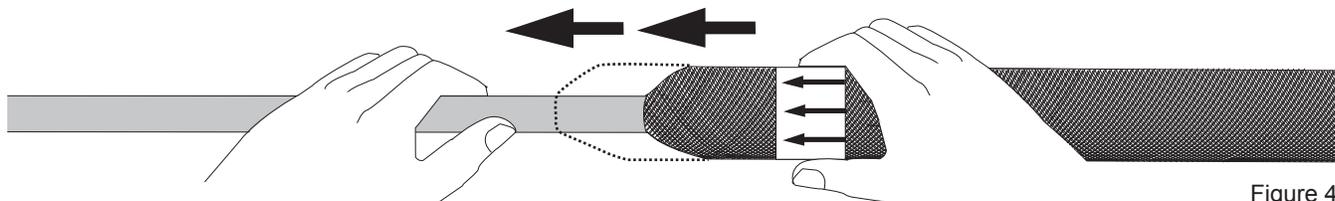

Figure 4
Step 3: Hold the cable with one hand and place your other hand over the arrow direction label. Slide the pulling sleeve as a unit down the cable per the arrows' direction (Figure 4).